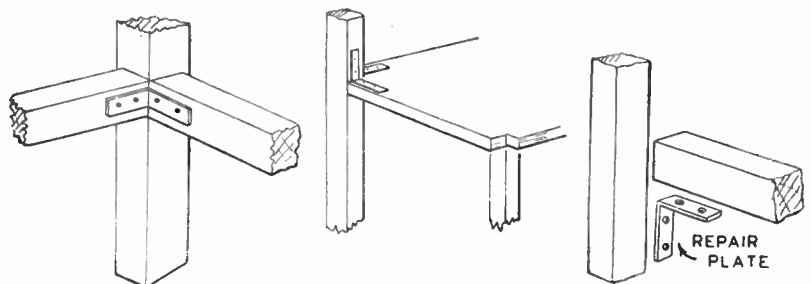

Fig. 5—Three examples of the use of metal angle plates
Illustrations are given at Fig. 5 of the method in which they can be used. The angle plate (A) should be stood in its corner, and a pencil mark made where the screw holes will need to be bored